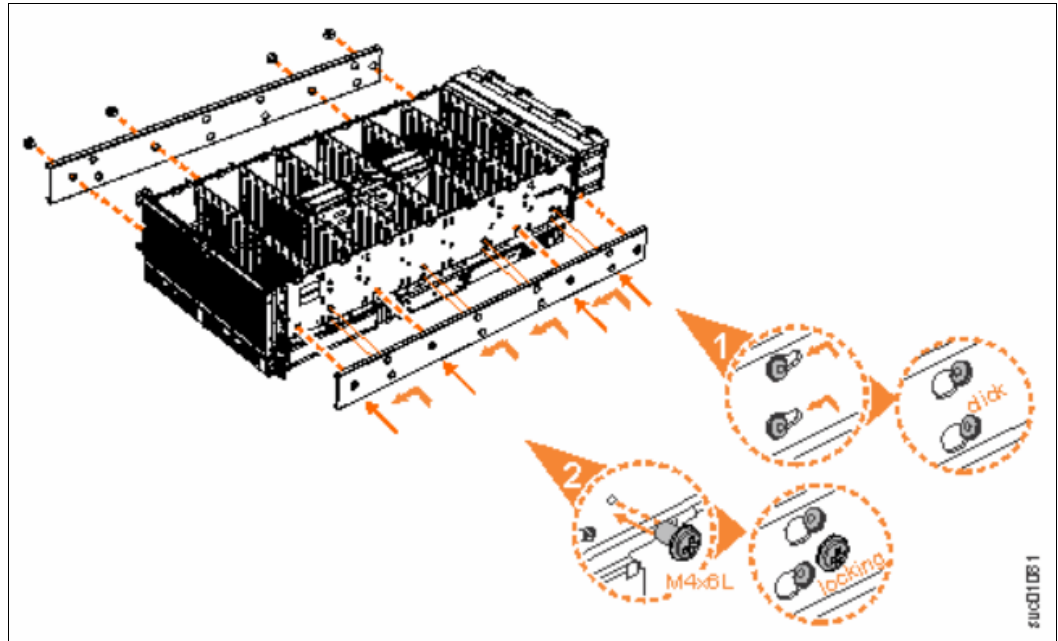

Figure 6-10 Attaching the inner rail members to the expansion enclosure
4. Install the inner section of the rail onto each side of the expansion enclosure, as shown in Figure 6-10.